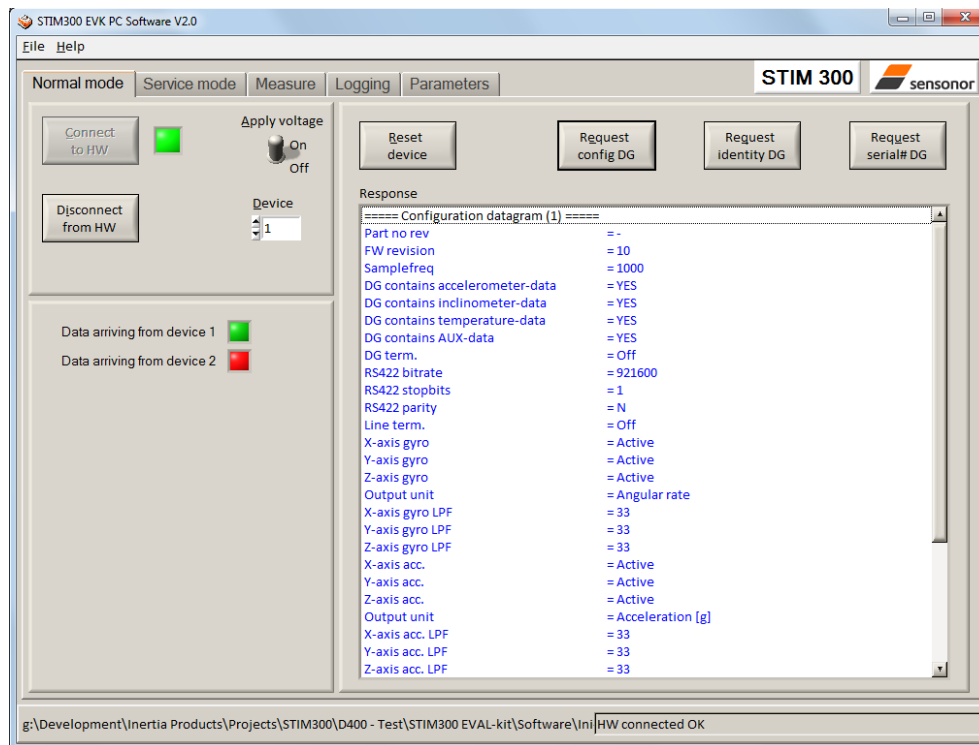

Figure 18: Result of sending 'Request config DG' to the IMU
9. A green LED (Data arriving from device n) indicates that data is received from the gyro module(s). Verify the communication to module by clicking on the 'Request config DG' button. An example of such a result is shown in Figure 18. The system is now ready for use.